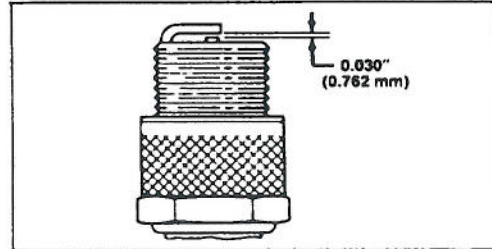

Figure 15
3. Set air gap at 0.030" (0.762 mm) (Fig. 15). Install correctly gapped spark plug and gasket seal. Tighten plug firmly to 15 ft-lb (20.4 N-m).